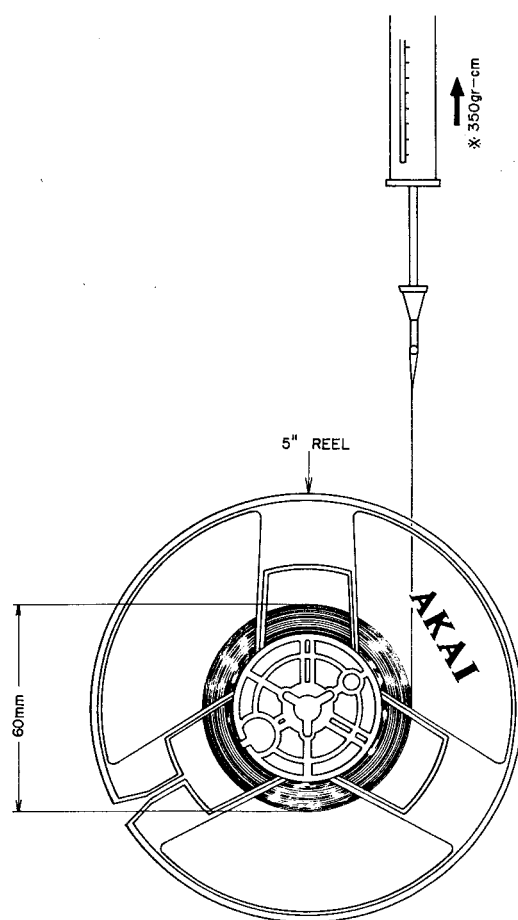

Fig. 3
#### 4. BRAKE TENSION ADJUSTMENT (Refer to Figs. 3 and 4)
1) As shown in Fig. 3, use a 60 mm diameter of tape wound on a 5" reel and set both left and right brake tension to approximately 350 gr-cm. Deviation of left and right tension must be within 50 gr-cm.